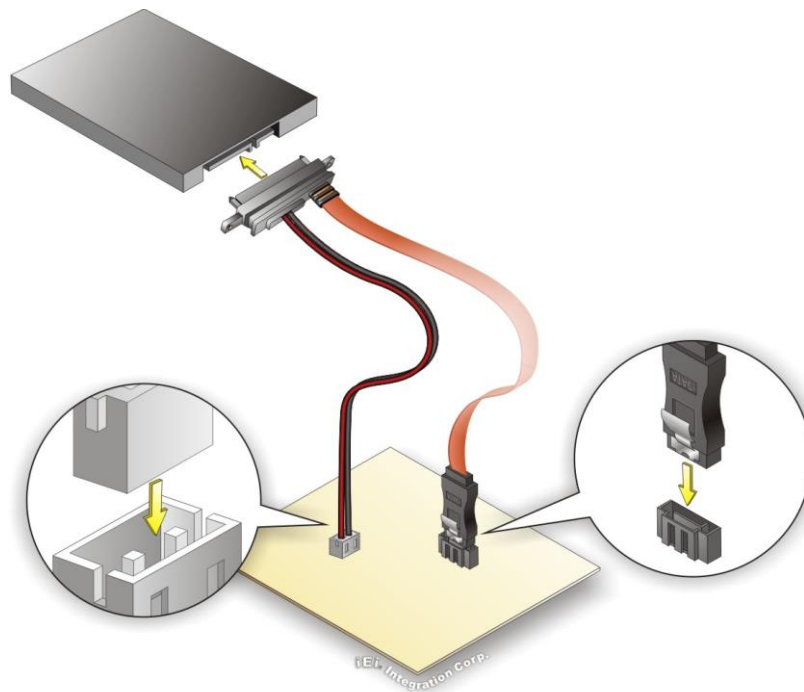

Figure 4-8: SATA Drive Cable Connection
- Step 2: Insert the cable connector.** Insert the cable connector into the on-board SATA drive connector and the SATA power connector. See **Figure 4-8**.
- Step 3:** **Connect the cable to the SATA disk.** Connect the connector on the other end of the cable to the connector at the back of the SATA drive. See **Figure 4-8**.